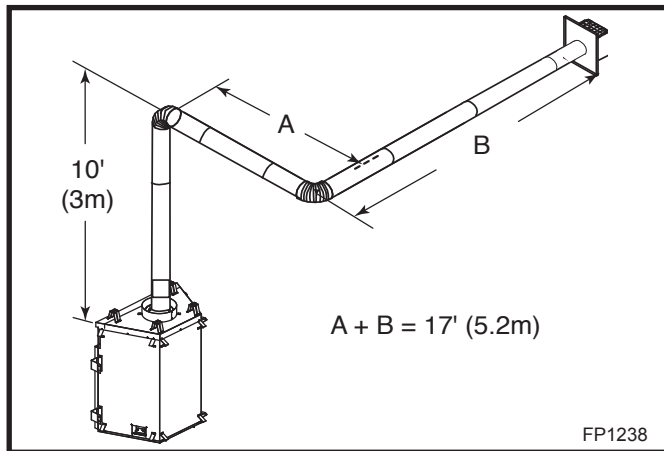

Fig. 19 Maximum vent run with elbows.
- The maximum number of 45° elbows permitted per installation is six (6). These elbows can be installed in either the vertical or horizontal run. (Fig. 19)